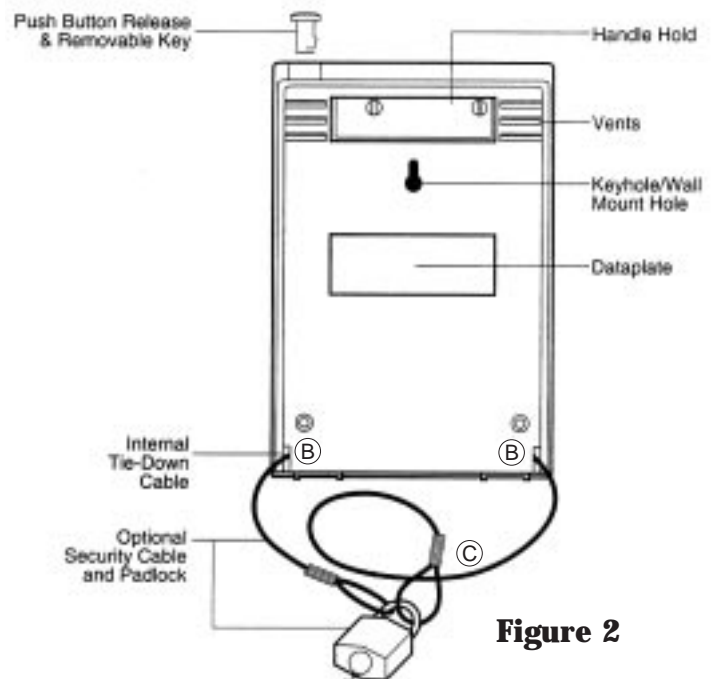

Figure 2
Optional Tie-Down Cable: At the bottom rear of the case you will see holes (B) on either side of the case; these form the channel for the tie-down cable accessory. If you have purchased the cable, simply pinch the loop on one end of the cable (C) to give it clearance into the channel, then thread it through the other end. Now you are able to lock or bolt down the unit. See figure 2.